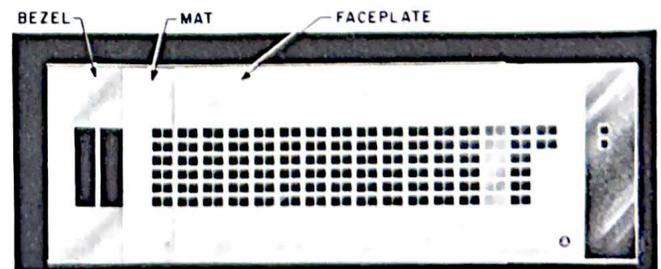

Fig. 1 — Typical Faceplate Assembly
2.01 Faceplate assemblies: Table B lists the complete faceplate assemblies and piece part information. A complete assembly with five colored mats is included with each mounting. Fig. 1 shows a typical faceplate assembly offset to the right for illustration.